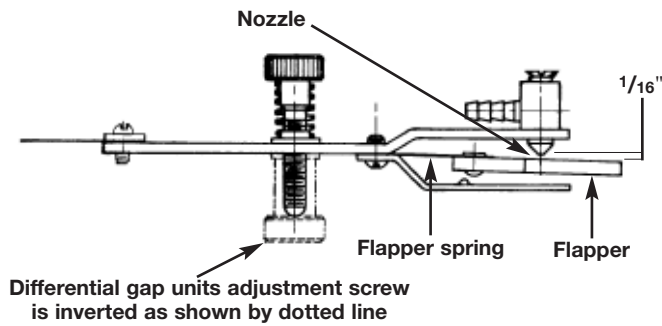

Figure 17
2. Damaged or bent flapper spring. The flapper should stroke approximately 1/16" away from the nozzle in the free hanging position. If it does not, carefully bend the spring down with a screwdriver forcing the flapper away from the nozzle. Refer to Figure 17.